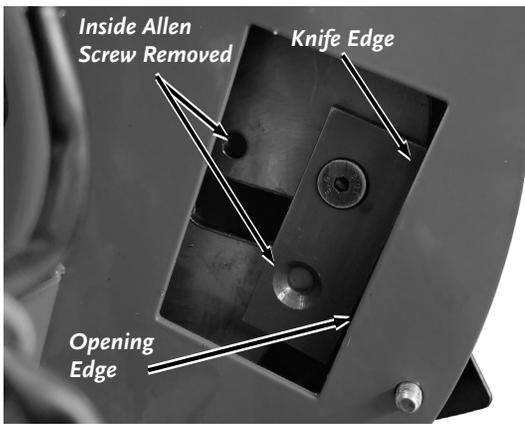

Figure 40
7. Align the Knife edge with the long edge of the Window, then carefully remove the Knife and Screw together (**Figure 40**).